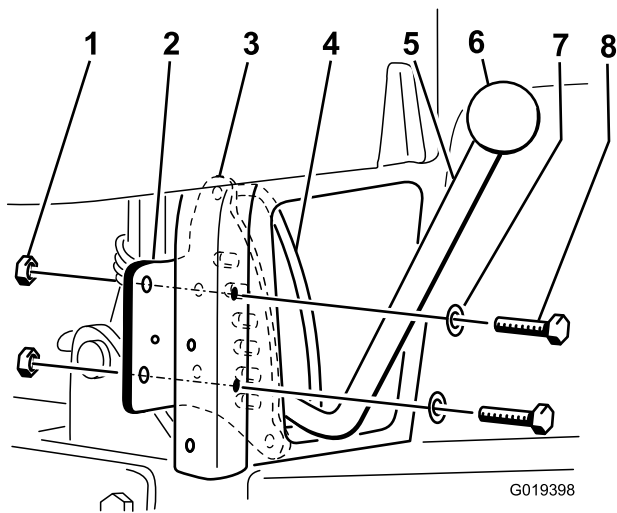

Figure 3
Note: The handle should pass between the detent plate and the handle guide (Figure 3).
7. Install the detent plate to the back of the right rear vertical frame tube with 2 bolts (5/16 x 2-1/4 inch), the 2 washers removed in step 4, and 2 locknuts (5/16 inch). Position the parts as shown in Figure 3.)
8. Thread the knob onto the lift handle (Figure 3).